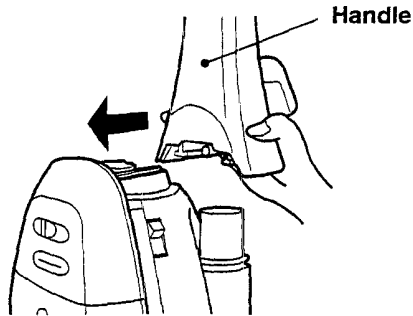

Fig.1
- 1 First remove the handle screw. Then insert the base of the handle into the top of the body of the vacuum cleaner as shown. (Fig. 1)